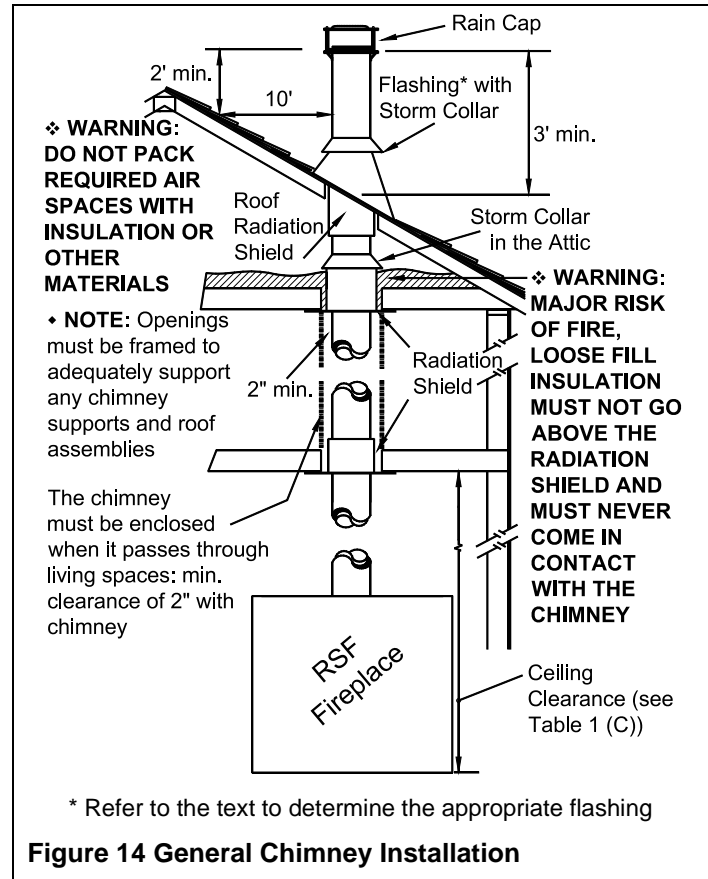

Figure 14 General Chimney Installation
2. From below, install a radiation shield in each floor through which the chimney passes. At the attic level, install a radiation shield and a storm collar as shown in Figure 14.